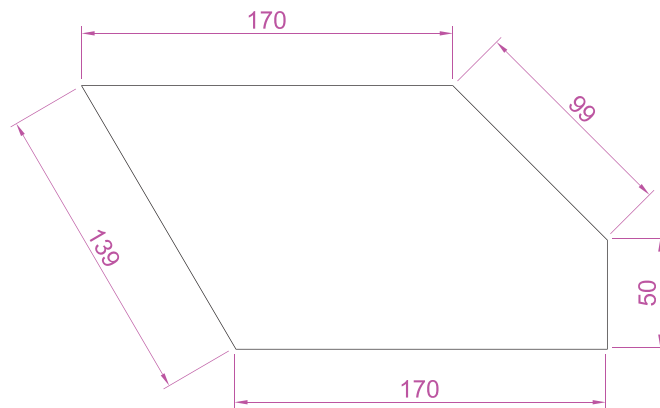

Fig. 6.5 Second example – **Aligned** dimension
Second example – Aligned Dimension (Fig. 6.5)
1. Construct the outline shown in Fig. 6.5 using the **Line** tool.